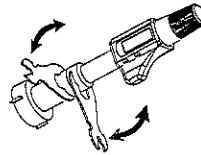

fig.4
6. Install extension rod to measure deep hole. Use spanner 2 to separate measuring head from main stem, install extension rod between measuring head and main stem, and use spanner to tight it (fig.4). Caution: Don't hold the micrometer head by hand.